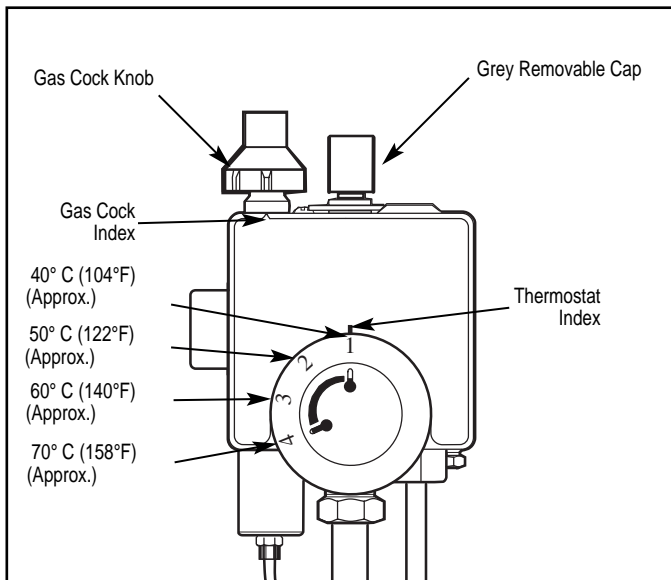

Figure 4 — Thermostatic Gas Valve.
- 3. **WATER TEMPERATURE SETTING**— The temperature of the water in the heater can be regulated by setting the temperature dial on front of the thermostat. (Refer to Fig. 4.) The thermostat was set at its lowest setting before the water heater was shipped from the factory.